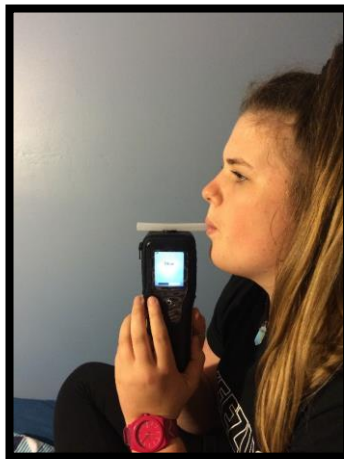

Figure 10 - Providing a Mouthpiece sample
- Take a deep breath; place mouth over mouthpiece inlet (ribbed end) and blow a gentle to medium breath sample into the mouth piece (refer Figure 10).